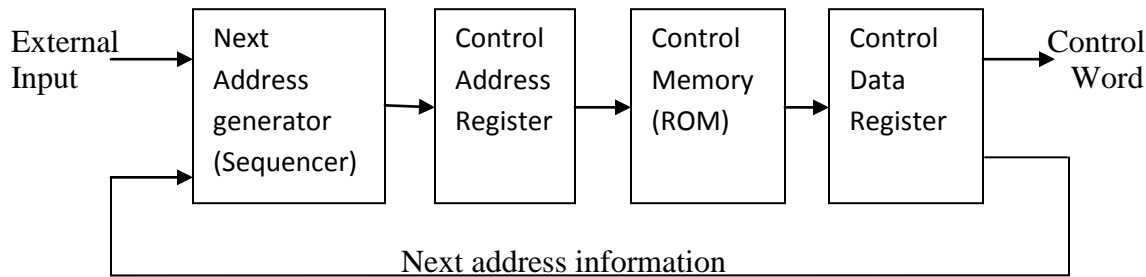

Fig 3-1: Microprogrammed Control Organization
- The general configuration of a microprogrammed control unit is demonstrated in the block diagram of Fig. 3.1.